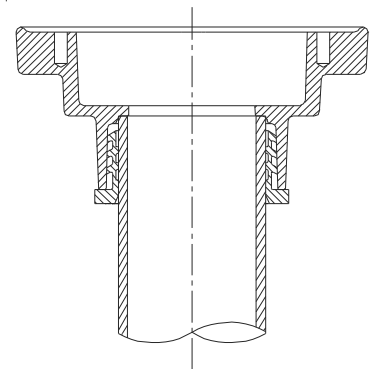

Fig. 2
2. Install drain body on pipe and pressure test connection per local code requirements. See Fig. 2 (Neo-loc body shown for reference)